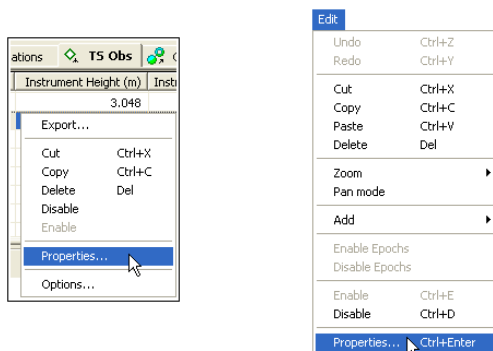

Figure 5-74. Ways to Open Properties
- Right-click the selected occupation(s) and click **Properties** on the pop-up menu, or click **Edit ▶ Properties** (Figure 5-74).